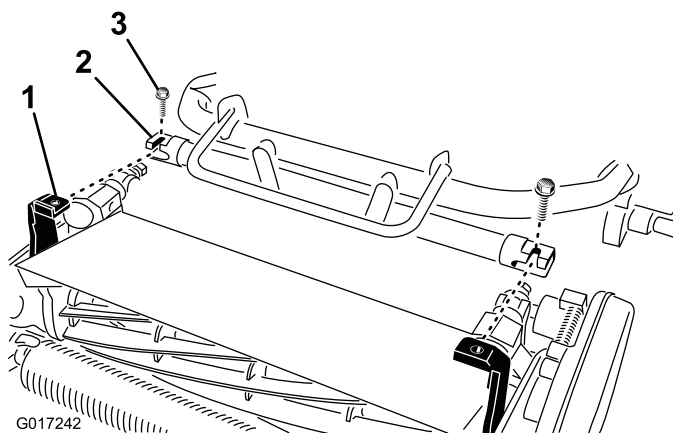

Figure 5
4. Maneuver the traction unit frame (Figure 5) forward until it engages the cutting unit pivot arms.
5. Secure the traction unit frame to the cutting unit pivot arms with (2) 3/8 x 3/4 inch bolts (Figure 5).